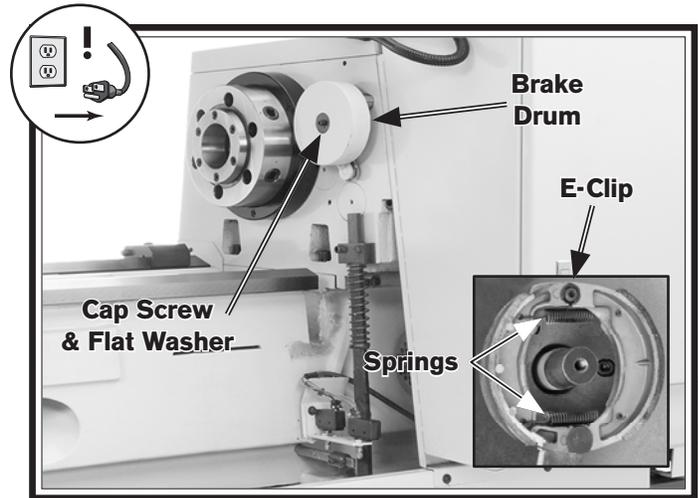

Figure 130. Brake drum.
8. While the brake pedal is being held down to lock the brake drum in place, remove the drum retaining cap screw and flat washer shown in **Figure 130**.
10. Remove the E-clip and springs shown in the inset of **Figure 130**, then remove the brake shoes.